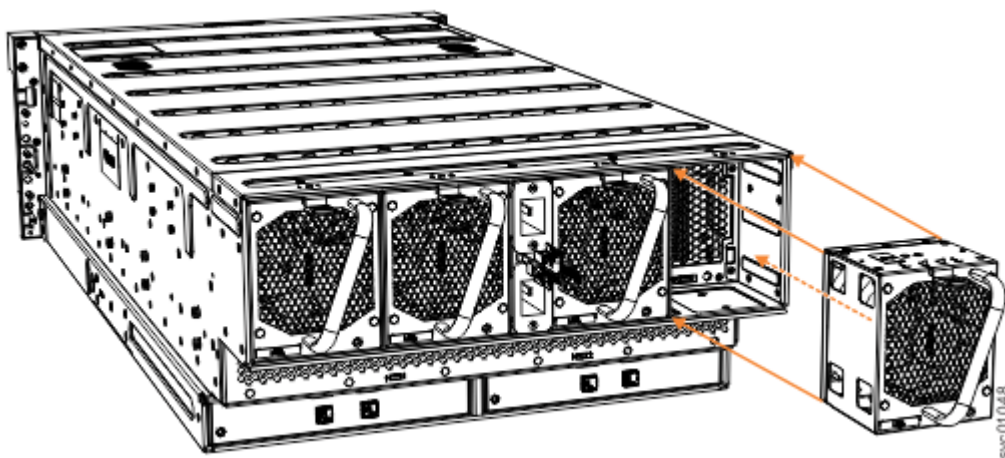

Figure 100. Remove fan module
3. Use the handle to pull the fan module out of the expansion enclosure chassis, as shown in Figure 100 on page 96.